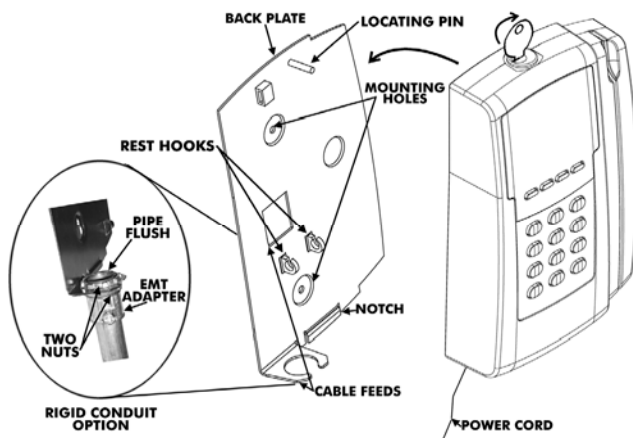

Figure 3: Rear Back Plate Removal
- Step 1.** Insert the key into the keyhole, turn clockwise, and remove the back plate as shown (see **Figure 3**). Set the terminal face up on a flat surface. Do not remove the key.
- Step 3.** Install a screw or anchor at the mark and hang the back plate from the top-mounting hole. Level the back plate by centering the vertical line in the bottom hole (see **Figure 3**).
- Step 1.** Re-install the MTX-15 terminal on the back plate by placing the notch on the bottom of the Back Plate (see **Figure 3**) over the plastic tab in the bottom of the terminal cabinet. Pivot the terminal up so the locating pin on the Back Plate aligns with its corresponding hole in the cabinet. Rotate the key counterclockwise to lock the terminal in place. Remove the key.